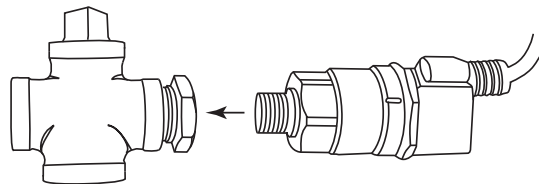

Fig. 5 Threading pressure transducer into bushing
4. Thread the pressure transducer into the 1/4" NPT port of the bushing that you installed in Step 3 (this is before wiring the transducer to the terminal box); see fig. 5. Tighten until wrench tight.